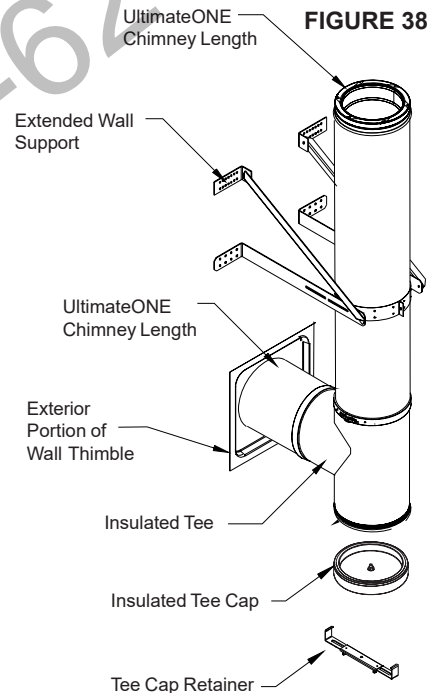

FIGURE 38
5. The Lower and Upper Support Arms and brackets should be installed on the first vertical chimney length above the Insulated Tee (see Figure 38). Tighten the Support Band locking bolt just enough to hold the Extended Wall Support in place.